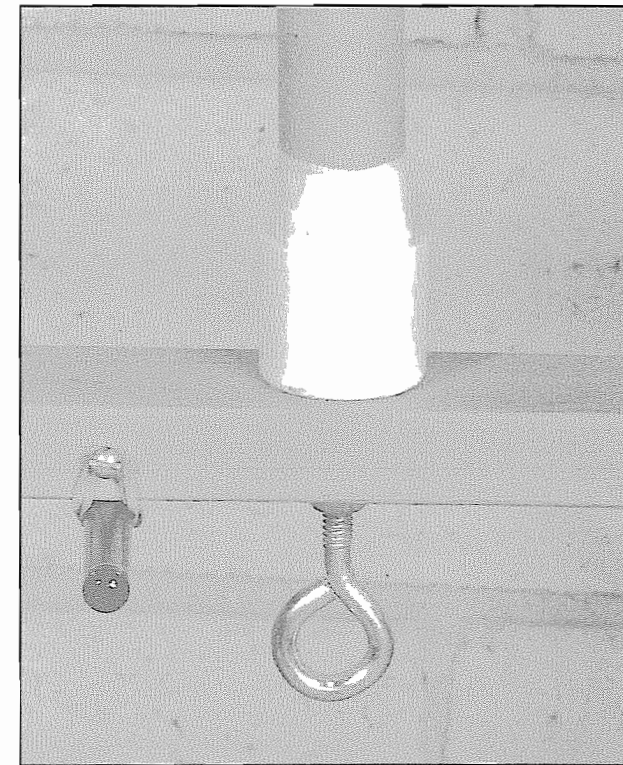

Figure 18-11. A few wraps of masking tape fit the motor snugly into the test stand's motor holder.
2. Wrap the front of the motor with masking tape until it fits snugly into the motor holder (Figure 18-11).